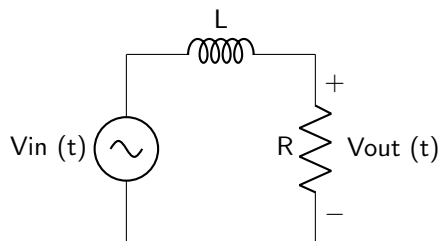

Figure 11.2: Filter circuit diagram.
2. What type of filter is shown in figure 11.2? How do you know?